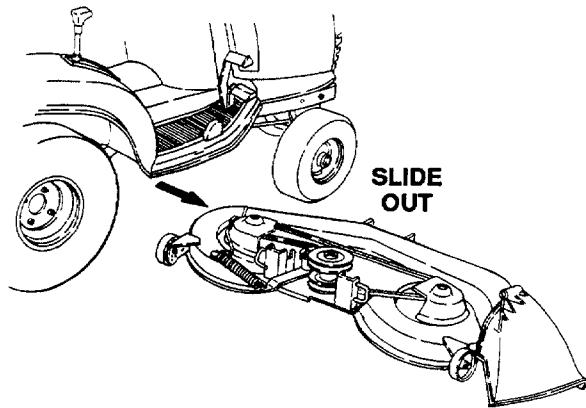

Figure 44
- With the tractor implement lift handle raised to its highest setting, slide the deck to the right and out from under the tractor. (Refer to Figure 44.)